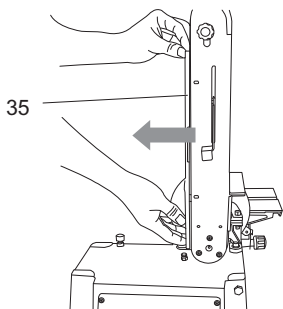

Fig. 34
- > Remove the lower belt cover (35). (Fig. 34)